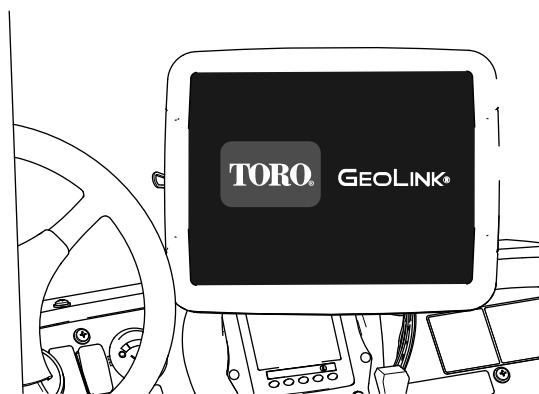

Figure 232
- Control console—displays graphics and text (Figure 232)